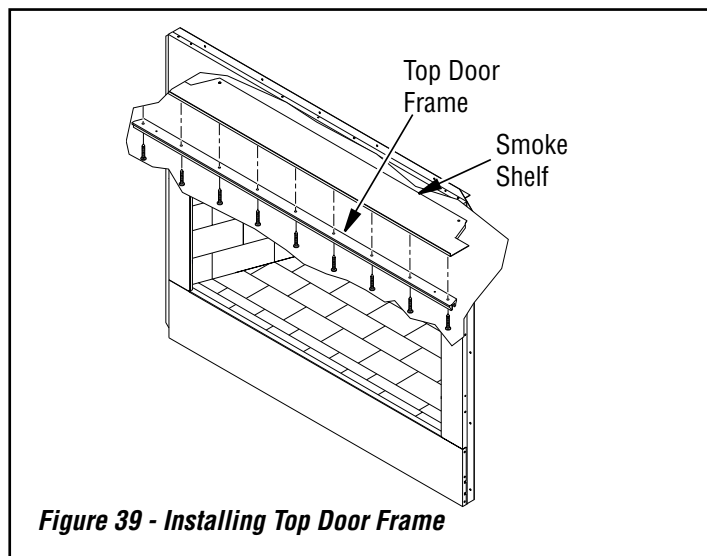

Figure 39 - Installing Top Door Frame
1. Remove screws from smoke shelf (see *Figure 39*).
2. Mount top door frame and secure with screws provided (see *Figure 39*).